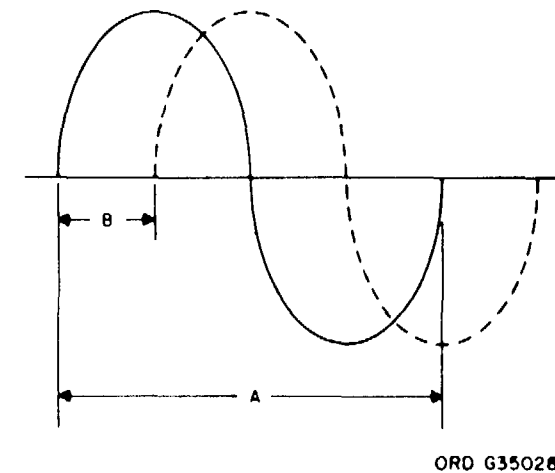

Figure 2-5. Phase shift measurements.
- a. Measure the distance between the two sine waves displayed on the CRT screen as described in steps (1) through (8) below.
- (1) Apply one of the sine-wave signals to the channel A input and the other to the channel B input of the dual trace plug-in.
- (2) Set up the delaying sweep plug-in for externally triggered normal sweep operation (par. 2-10). Use the sine-wave signal source that is applied to the channel A input as the external trigger source.
- (3) Set the MODE switch to ALT.
- (4) Adjust the TIME/DIV switch until a couple of cycles of the display appear on the screen.
- (5) Adjust the POSITION controls on the dual trace plug-in until the positive portion of the sine wave above the horizontal graticule center line is equal to the negative portion of the signal below the line.
- (6) Adjust the POSITION control on the delaying sweep plug-in until the positive slope of one of the signals starts at the first left side vertical graticule line.
- (7) Measure the horizontal distance of one cycle of the sine-wave signal that starts at the first left side vertical graticule line as shown in figure 2-5. Call this distance A.
- (8) Measure the horizontal distance between the start of one of the sine-wave signal to the start of the other (Fig. 2-5). Call this distance B.